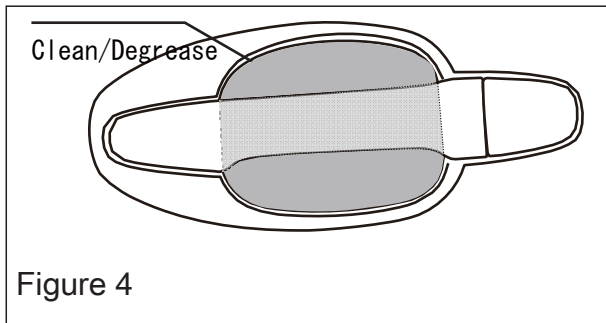

Figure 4
(1) Preparation - continued (Figure 4)